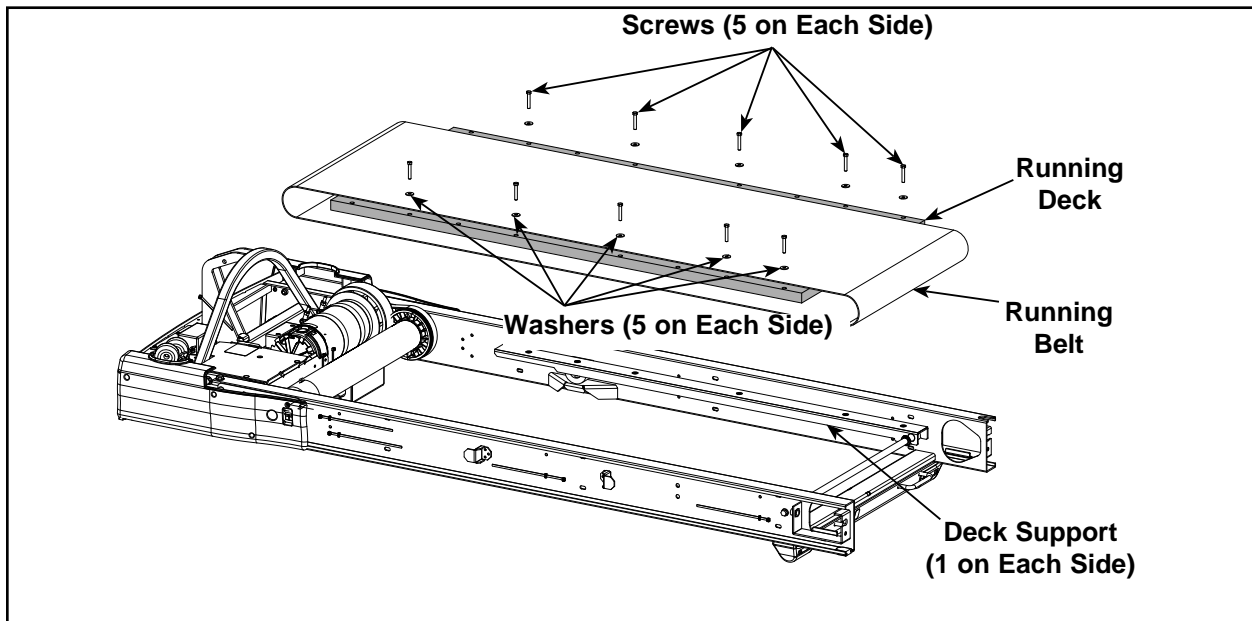

Figure 7
- A. Using a 7/16" open-end or socket wrench, remove the ten screws and ten washers that hold the deck in place. See Figure 7.
- B. Using a 7/16" open end or socket wrench, attach the ten washers and screws that hold the deck to the treadmill frame. See Figure 7.